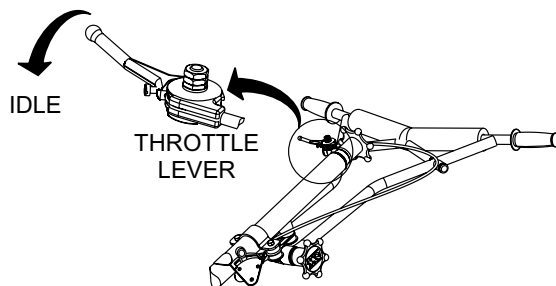

Figure 38. Throttle Lever (Idle)
1. Move the throttle lever forward to the (Figure 38) "IDLE" position and run the engine for three minutes at low speed.